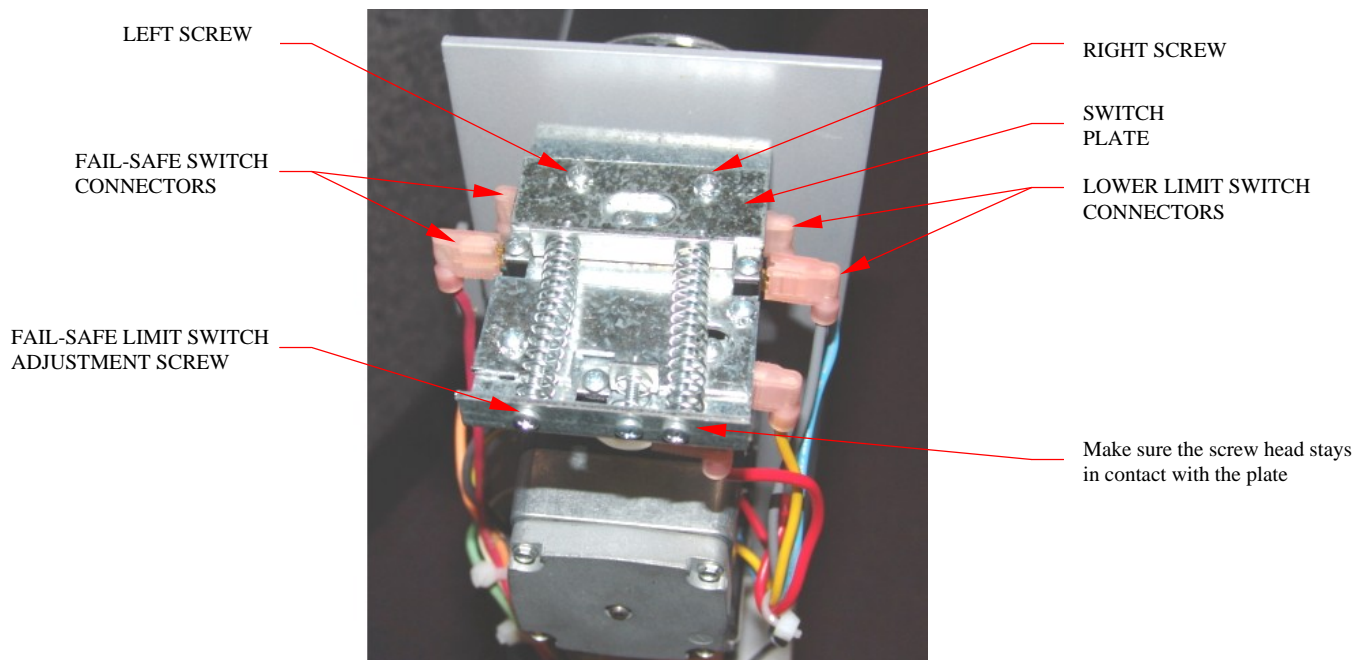

FIG. 6
There is a faint click when the switch opens, if this is not audible - disconnect the **blue** and **gray** wires from the Lower-Limit switch by pulling the connectors (FIG. 6, right-hand side) from the blade terminals of the switch and check for continuity between these blade terminals.
- 28 Disconnect the **blue** and **red** wires from the **Fail-Safe switch** by pulling the connectors (FIG. 6, left-hand side) from the blade terminals of the switch.
- Loosen the Left Screw only (FIG. 6).
- The Switch-Plate should pivot around the Right Screw (FIG. 6). The Switch-Plate should be at a slight angle with the left side being closer to the adjustment screws than the right side.